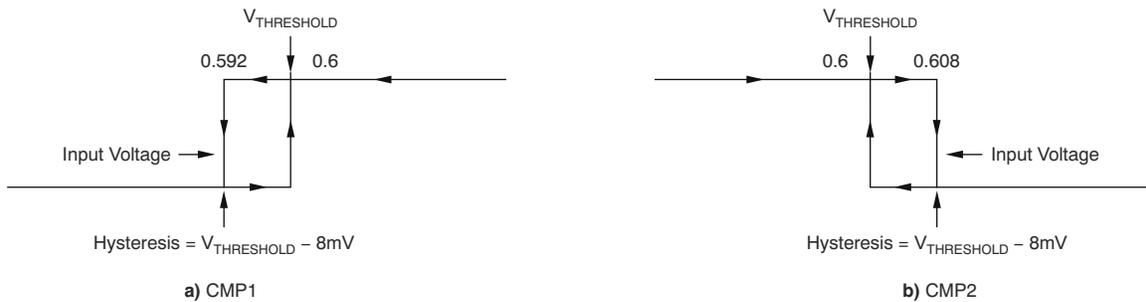

Figure 6-1. Comparator Hysteresis
- (1) Hysteresis refers to the threshold (the threshold specification applies to a rising edge of a noninverting input) of a falling edge on the noninverting input of the comparator; refer to Figure 6-1.
- (2) Specified by design; not production tested.
- (3) See the Comparator Maximum Input Voltage Range section in the Application and Implementation.
- (4) The comparator response time specified is the interval between the input step function and the instant when the output crosses 1.4 V.
- (5) The CMP1 RESET input has an internal 2-M Ω (typical) pulldown. Leaving the CMP1 RESET open results in a LOW state, with transparent comparator operation.
- (6) The Comparator 2 delay applies to both rising and falling edges of the comparator output.